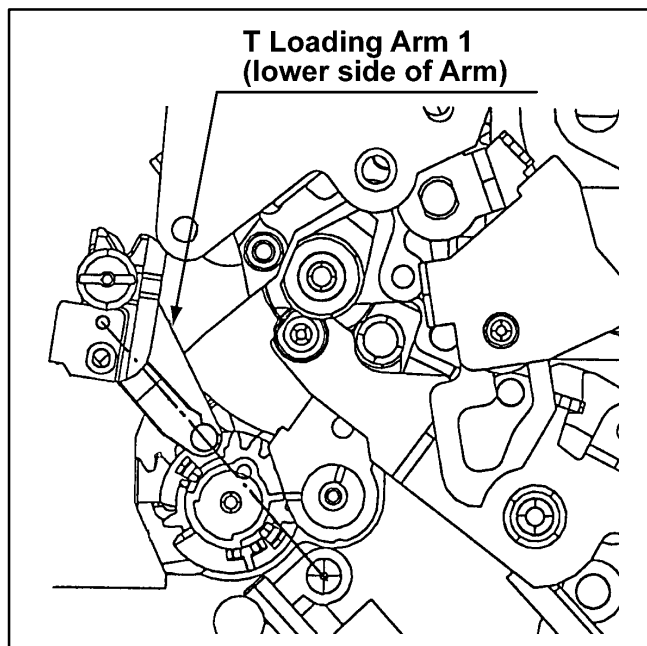

Figure 1-20-2
1. Turn clockwise emergency red screw and set the hole of T1 Boat Unit to match line of take up side cassette fixed pin as shown in figure 1-20-2.